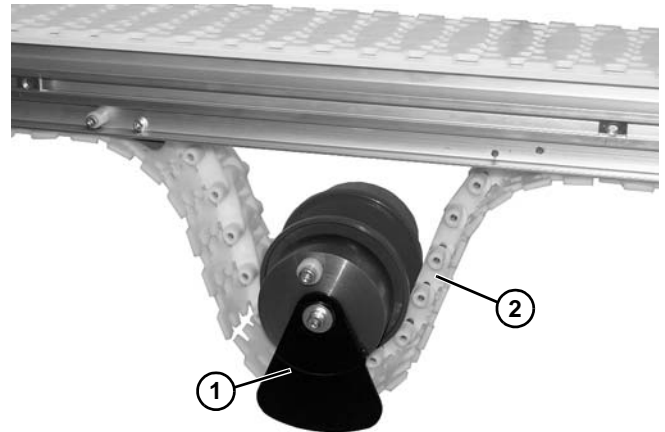

Figure 153
5. Remove idler pulley assembly (**Figure 153, item 1**) from belt (**Figure 153, item 2**).